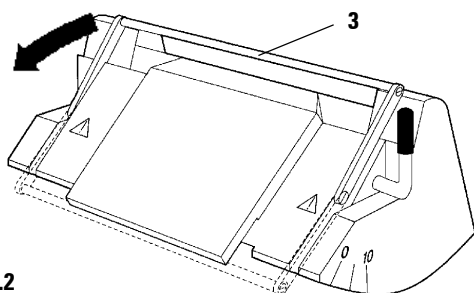

Fig. 59.2
Knife holder E (Fig. 59.2) is equipped with a tilting shackle (3) which functions as a knife guard.
Please refer to 12.3.1 Knife holder N (Fig. 59.2).